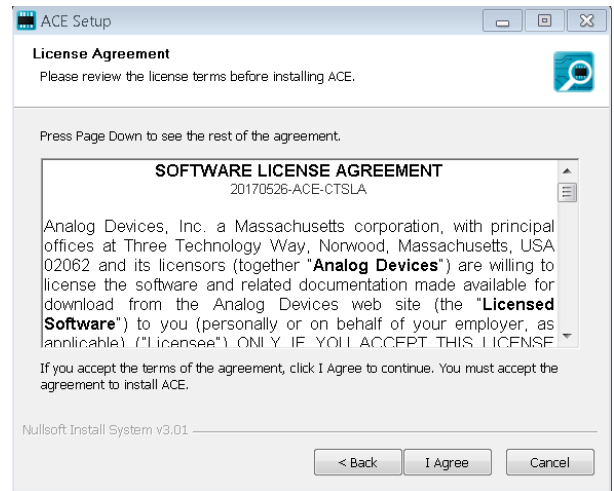

Figure 4. License Agreement
5. Read the software license agreement and click **I Agree** (see Figure 4).